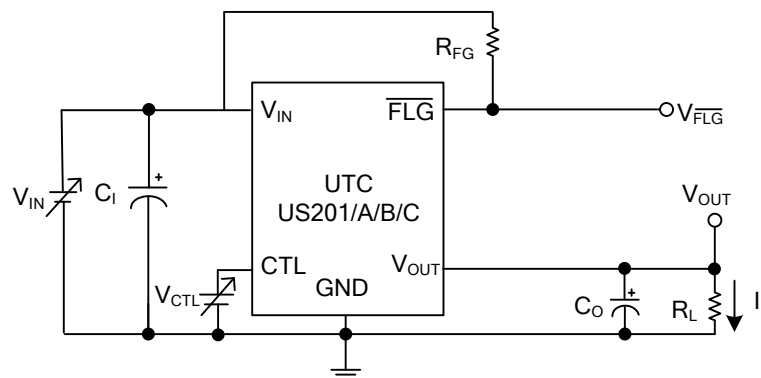

Fig.4 UVLO at Rising & Falling
- Fig.4 EN Threshold Voltage vs. Input Voltage & Temperature, Flag Delay Time vs. Input Voltage & Temperature, UVLO Threshold vs. Temperature, UVLO at Rising & Falling.